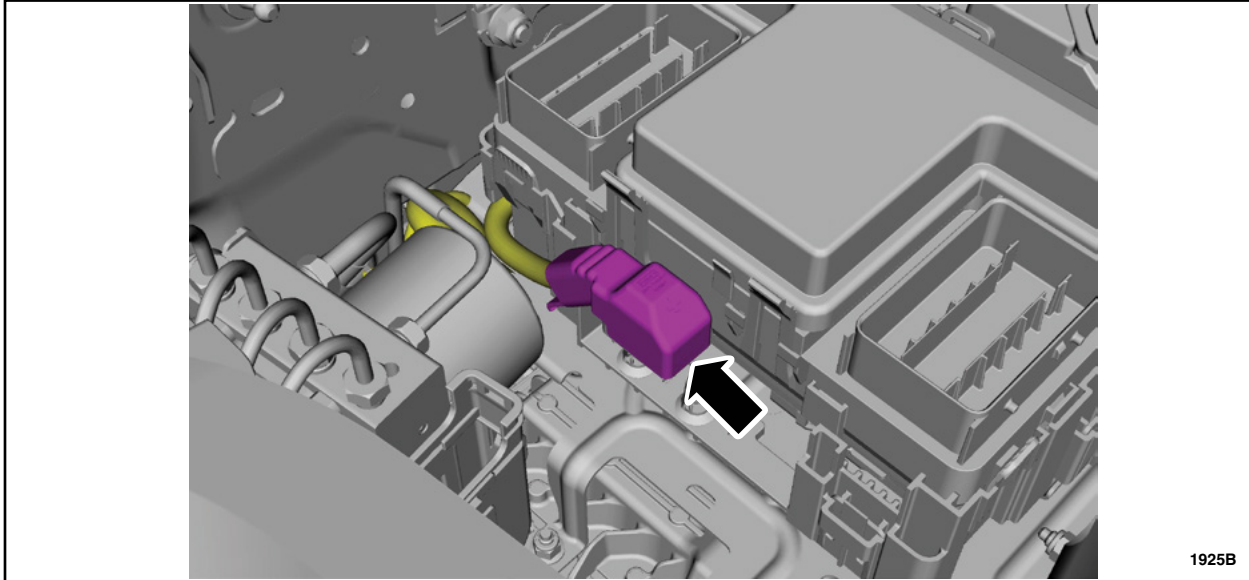

FIGURE 2
3. Position aside the battery cable cover. See Figure 2.